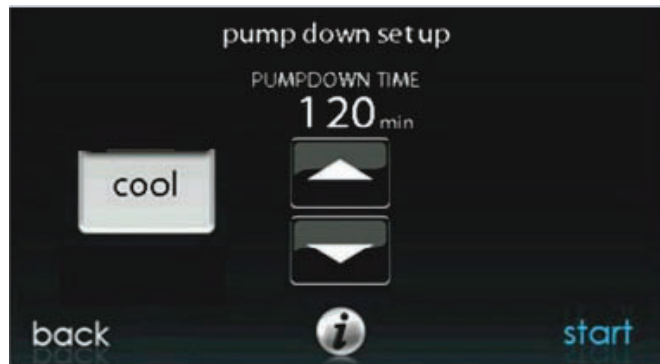

Fig. 50 – Pump Down Setup Screen
3. Pump down in COOL mode allows refrigerant to be isolated in outdoor unit. Set desired time period. Default time period for the procedure is 20 minutes. See Fig. 50.